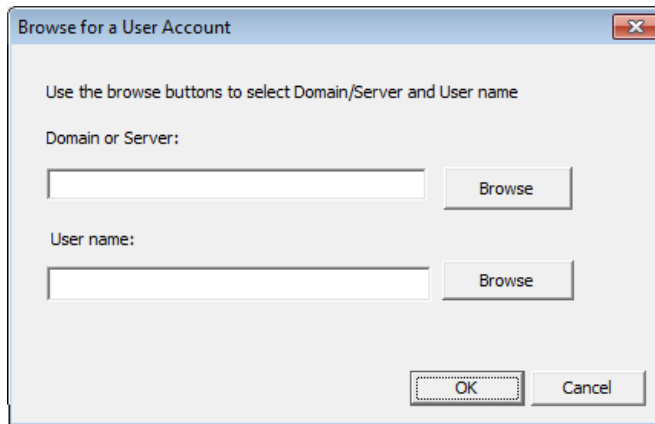

Figure 56. Browse for a User Account Dialog Box
- g. Click **Browse** to launch the Browse for a User Account dialog box shown in Figure 56.